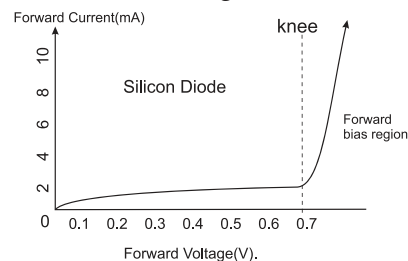

Fig. 14.24: I-V characteristic of a forward biased diode.
Figure 14.24 shows the I-V characteristic of a forward biased diode. Initially, the current is very low and then there is a sudden rise in the current. The point at which current rises sharply is shown as the 'knee' point on the I-V characteristic curve. The corresponding voltage is called the 'knee voltage'. It is about 0.7 V for silicon and 0.3 V for germanium.
The I-V characteristics of a forward biased diode (Fig. 14.24) is used to define two of its resistances i) the static (DC) resistance and ii) the dynamic (AC) resistance.
i) Static (DC) resistance: When a p-n junction diode is forward biased, it offers a definite resistance in the circuit. This resistance is called the static or DC resistance (R_g) of a diode. The DC resistance of a diode is the ratio of the DC voltage across the diode to the DC current flowing through it at a particular voltage.